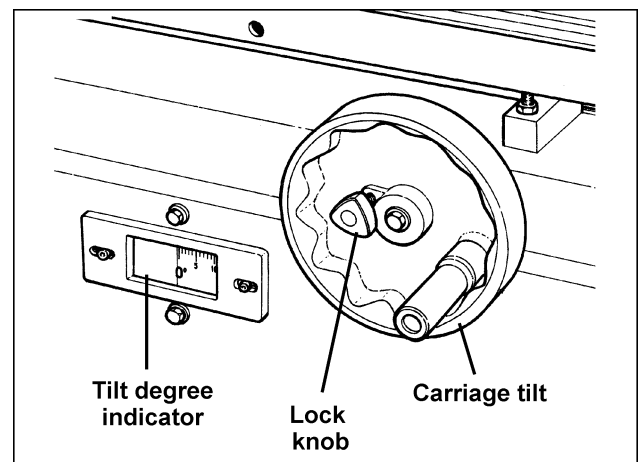

FIGURE 20
2. The blade is tilted by using handwheel on front of machine (Fig. 20). The blade can be tilted at any angle between 90 and 45 degrees. After setting, lock the blade in this position with the lock knob. The angle can be read on the indicator.